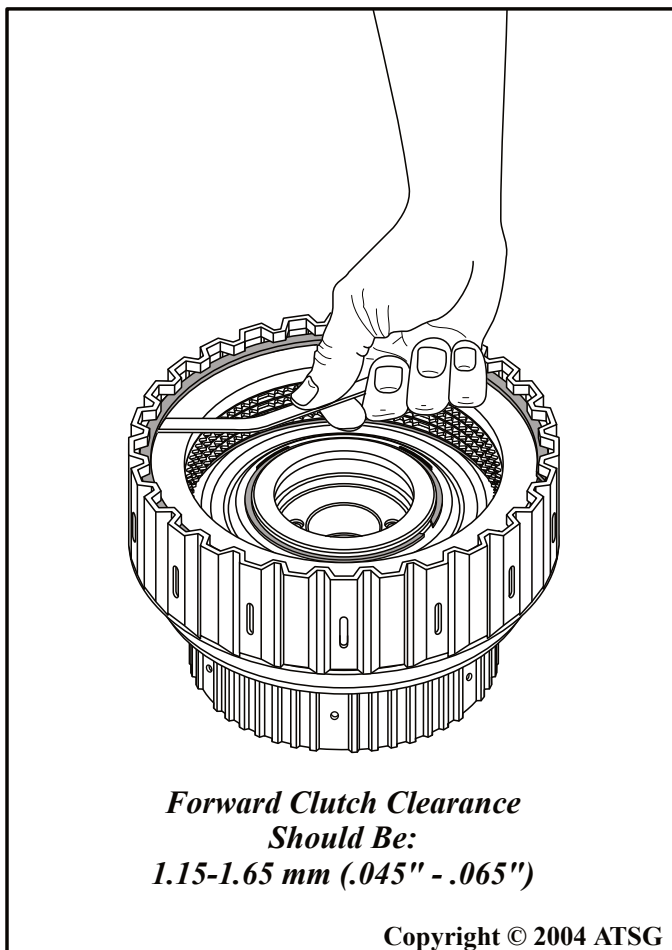

Figure 126
14. Check the forward clutch clearance using feeler gauge, as shown in Figure 126, between the backing plate and snap ring.
15. The forward clutch clearance should measure; 1.15 - 1.65 mm (.045" - .065"), as shown in Figure 126.